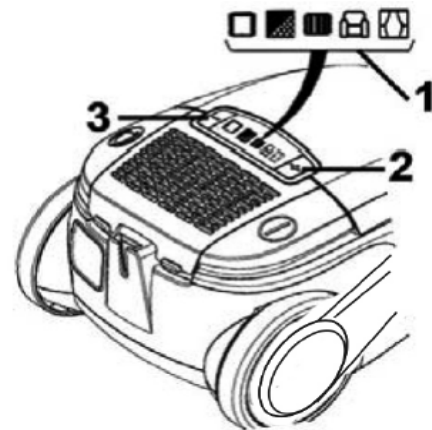

Fig.14
You can adjust the suction power of the unit to suit the type of surface being cleaned. Use the symbols on the suction power display as a guideline (Fig. 14/1):
- + button (Fig. 14/2) increases suction power
button (Fig. 14/3) reduces suction power